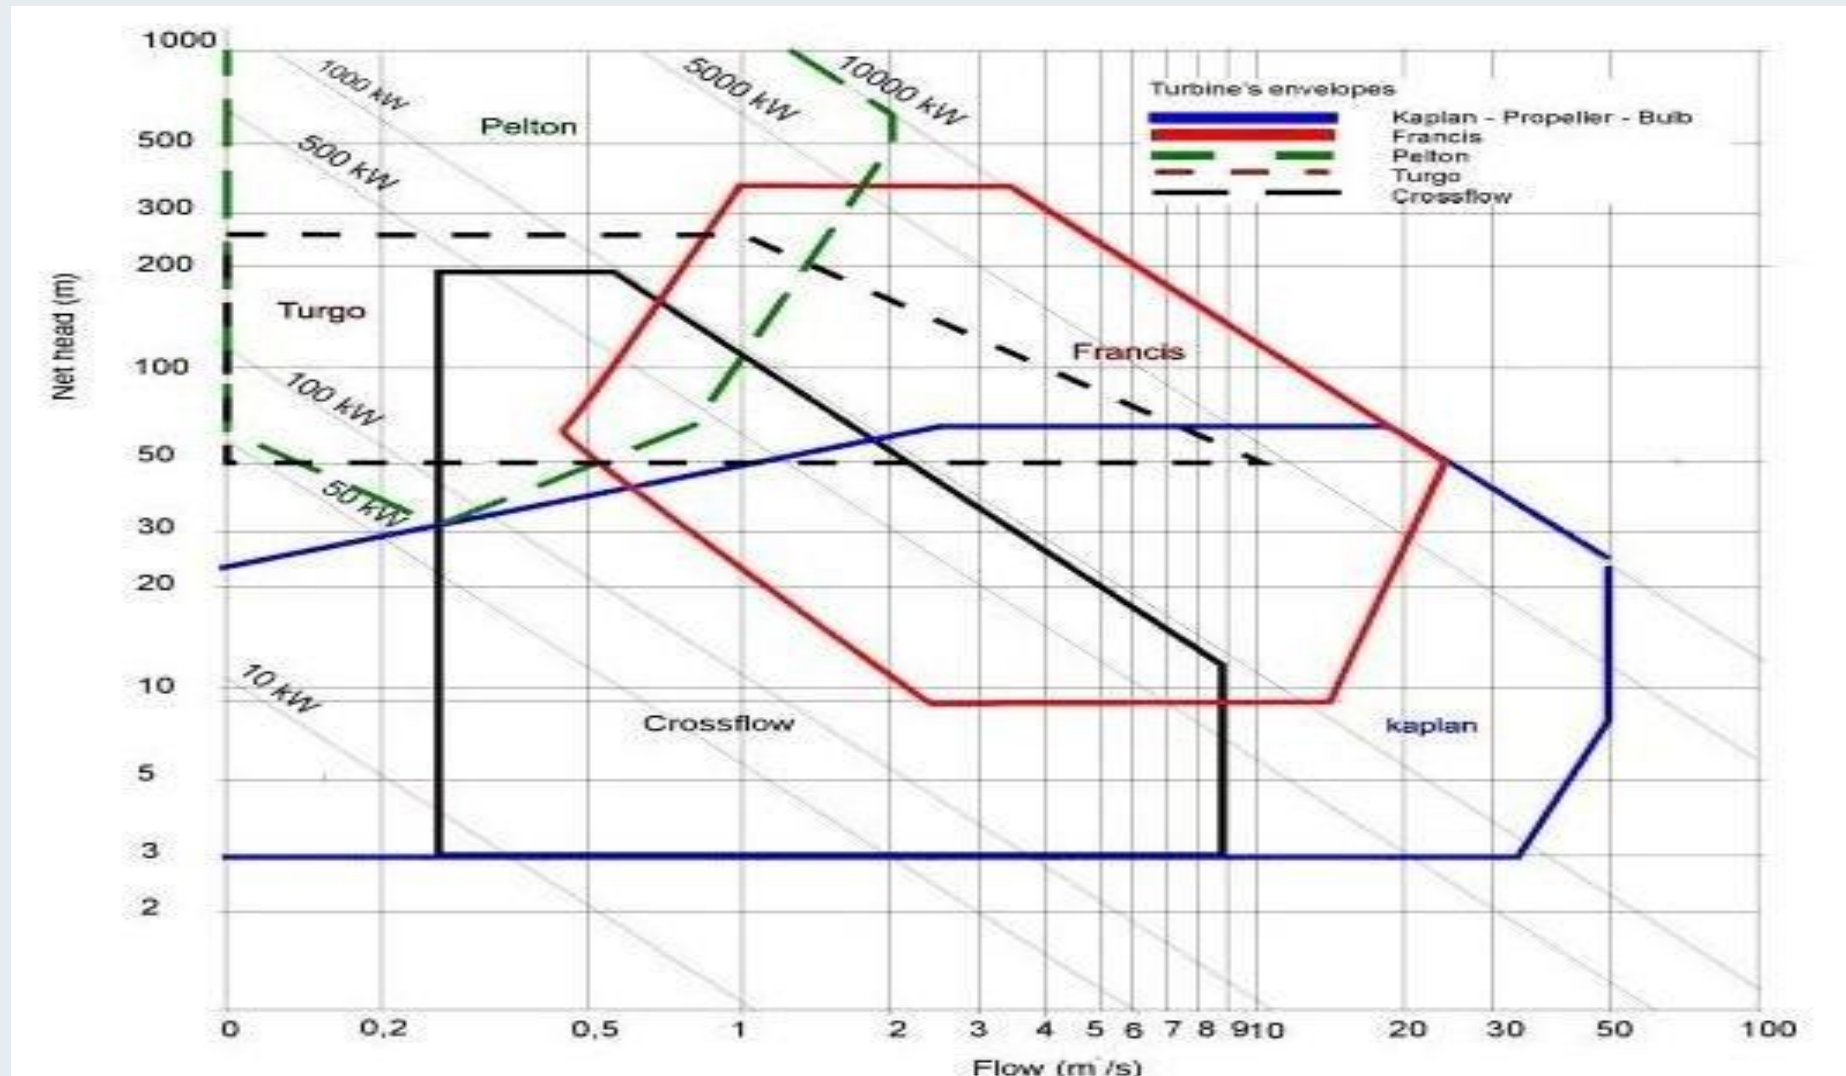

Figure: 5 Turbine selection chart[6].
- The micro hydro turbine could be selected either using the specification presented in Table 2. or Fig.5